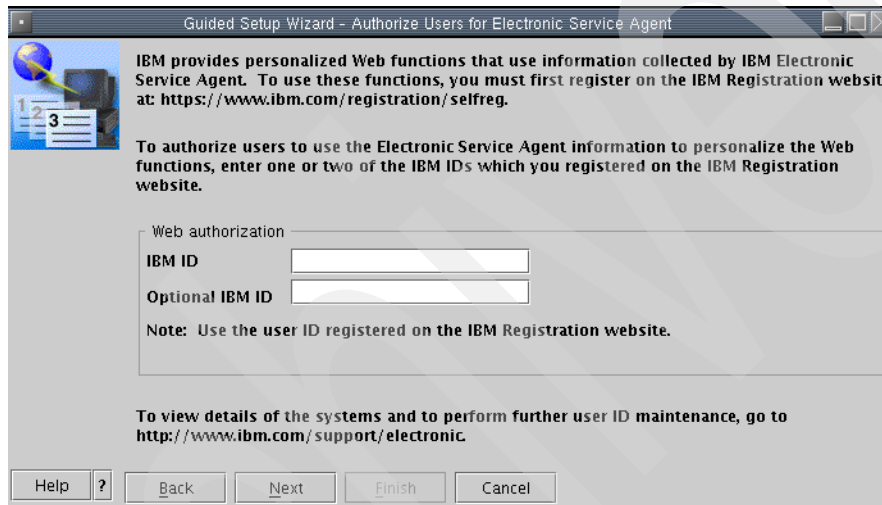

Figure 4-41 Guided Setup wizard - Authorized Users for ESA
38. The Guided Setup Wizard - Authorize Users for Electronic Service Agent panel is now displayed (see Figure 4-41).